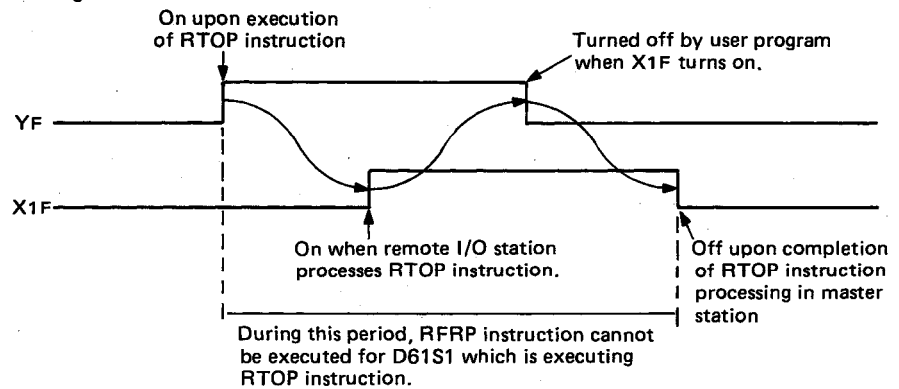

Fig. 6.1 Interlock Signals
- (3) The RTOP and RFRP instructions access from the master station to the remote I/O station. However, since these instructions cannot be executed during the same scan, always use interlock signals. For the interlocking procedure, refer to Fig. 6.1. For the programming procedure, refer to Section 6.3.2.
- (4) Control signal to D61S1